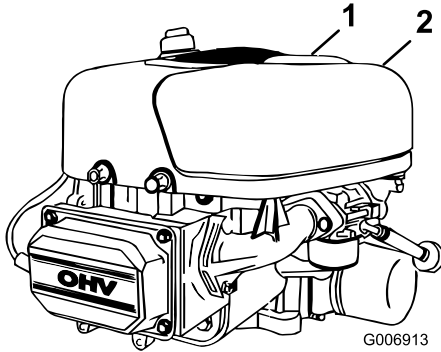

Figure 30
6. Pull up on the air cleaner cover handle and rotate it toward the engine (Figure 30).